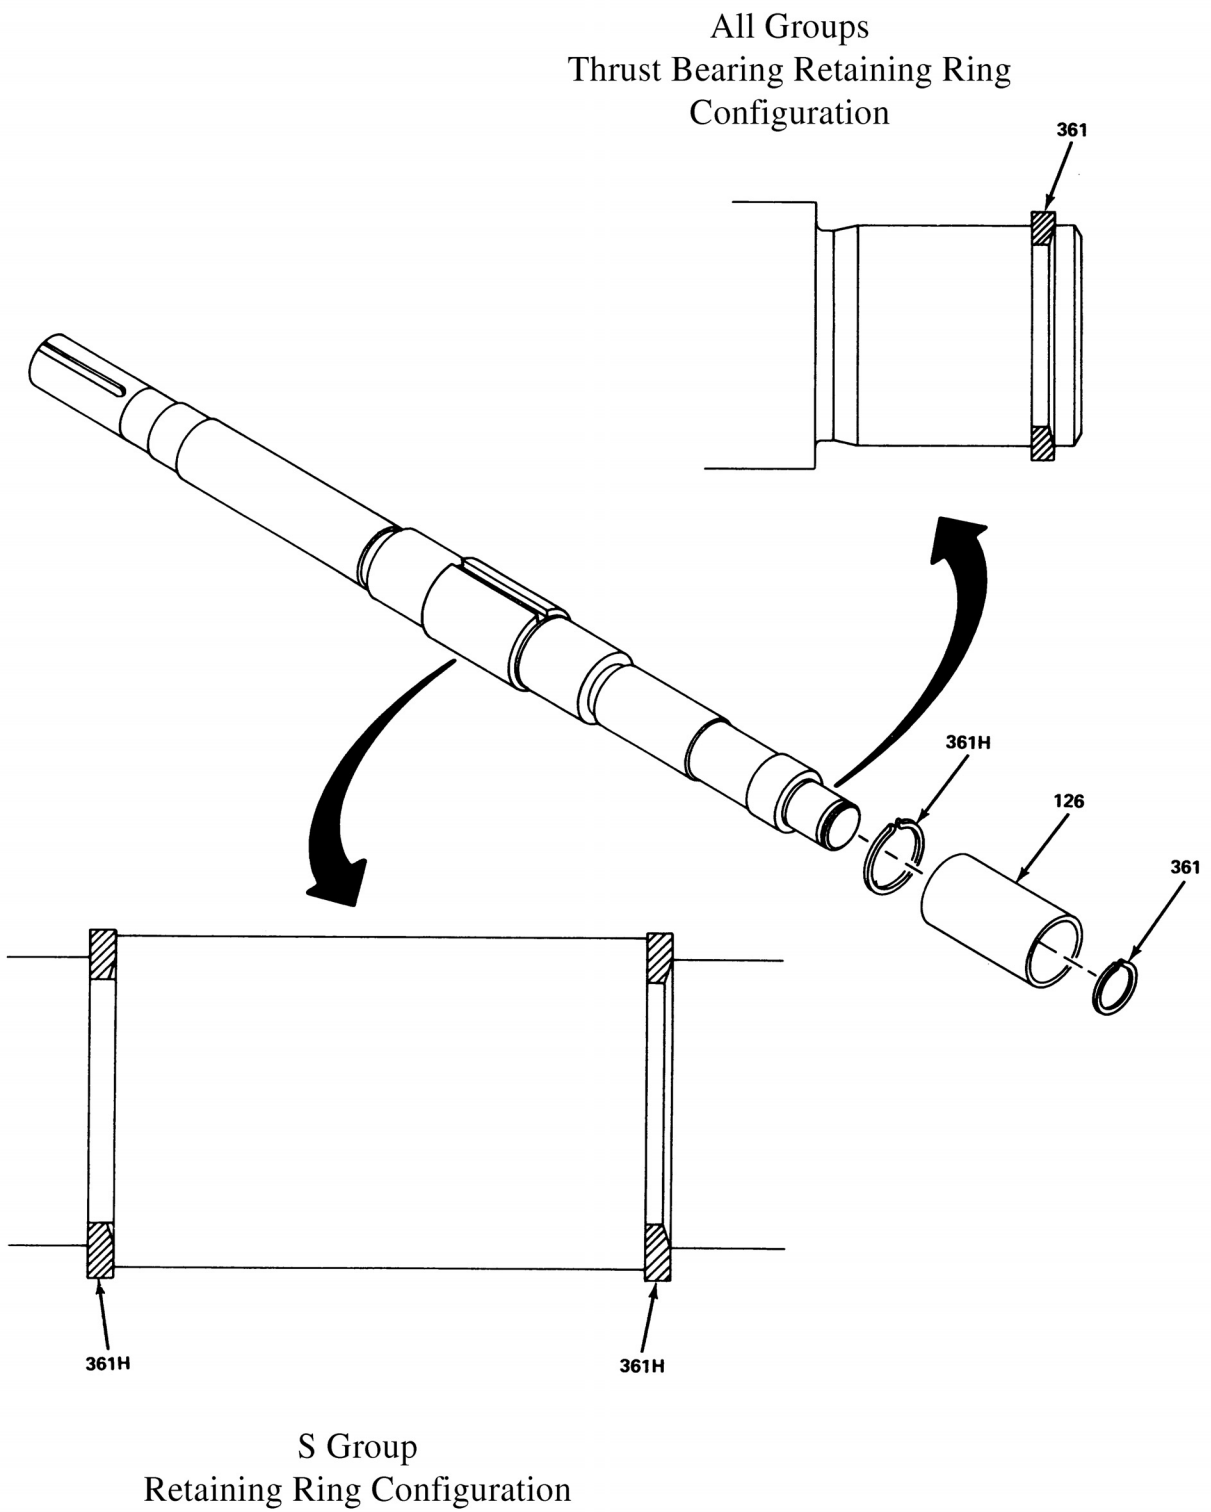

Fig. 39
Outboard (thrust end) retaining ring groove and retaining ring (361H) are tapered (see Fig. 39). Install retaining ring so that tapered side is facing outboard end of shaft. Inward pressure asserted by double taper provides automatic centering of impeller, and eliminates lateral play.
- Position casing wear rings (103) on impeller, ensure anti-rotation pins (445A) are firmly seated.
- Slide stuffing box bushing (125) on shaft or sleeve. (Units with mechanical seals do not have a stuffing box bushing.) If unit is equipped with mechanical seals, install seals at this time. Refer to manufacturer's instructions for details.
- Slide deflectors (123), bearing end covers (109), and gaskets (360) on shaft.
- d. For outbound or thrust bearing. Install tapered bearing retaining ring (361) in retaining ring groove on outboard (thrust) end of shaft (122), as shown in Fig. 39.
- Slide bearing housings (134) over bearings.
- a. Ensure casing wear ring (103) and anti-rotation pins (445A) seat properly in wear ring grooves and pin grooves.
- b. Using strap wrench, adjust impeller so that it is centered in seated wear rings by tightening or loosening sleeve nuts as required. Torque sleeve nuts (124) (M, L, XL only) to 30 ft-lbs (40.7 N.M.), tighten sleeve nut set screws (222B).